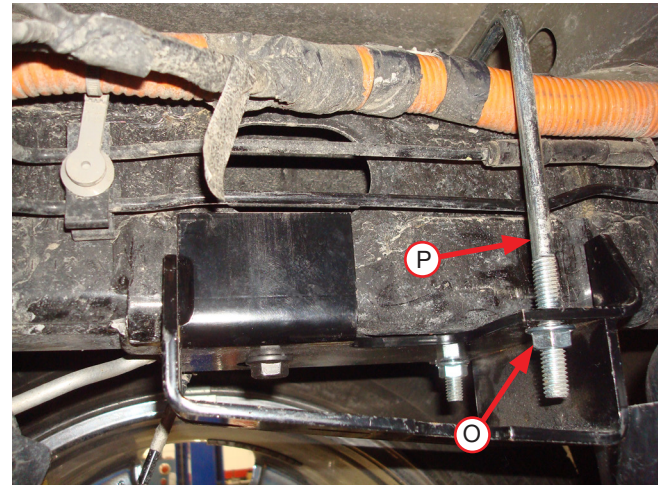

Fig. 6
5. Place the U-bolt (P) over the top of the frame and through the holes in the forward side of the upper bracket. Thread the serrated flange lock nuts (O) onto the U-bolt and evenly torque to 10 lb.-ft. (14Nm) (Fig. 6). Repeat for passenger's (right) side. When complete skip to step 8.